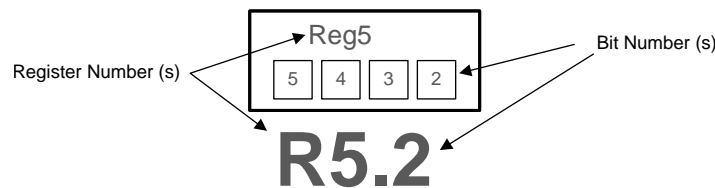

Figure 43. LMK03328 Register Reference Format
Figure 43 shows the method that this document employs to refer to an individual register bit or a grouping of register bits. If a drawing or text references an individual bit the format is to specify the register number first and the bit number second. The LMK03328 contains 124 registers that are 8 bits wide. The register addresses and the bit positions both begin with the number zero (0). A period separates the register address and bit address. The first bit in the register file is address 'R0.0' meaning that it is located in Register 0 and is bit position 0. The last bit in the register file is address 'R31.7' referring to the 8th bit of register address 31 (the 32nd register in the device). Figure 43 lists specific bit positions as a number contained within a box. A box with the register address encloses the group of boxes that represent the bits relevant to the specific device circuitry in context.